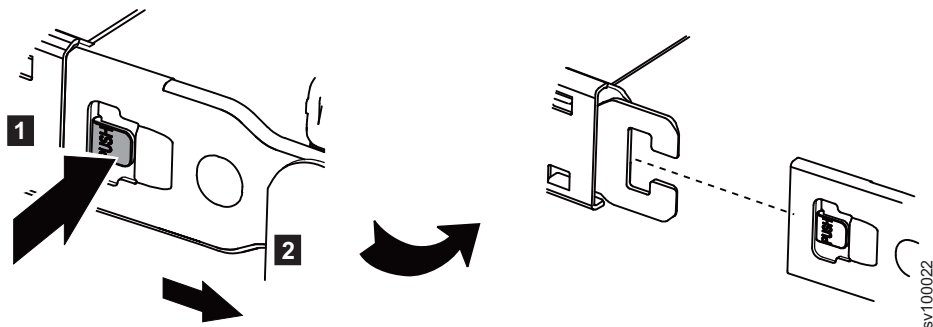

Figure 6. Releasing the outer member of the cable-management arm
3. Release the outer member, as shown in Figure 6 on page 23.